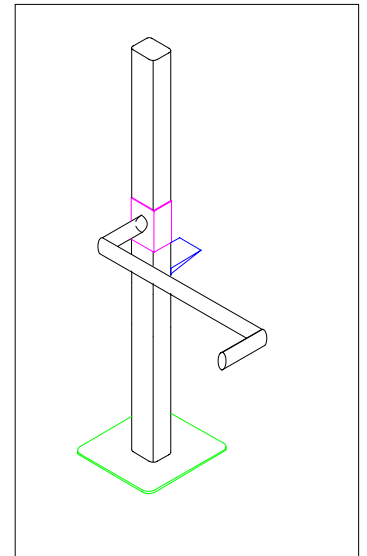

Figure 4
- a rack-and-pinion jack (see figure 4).